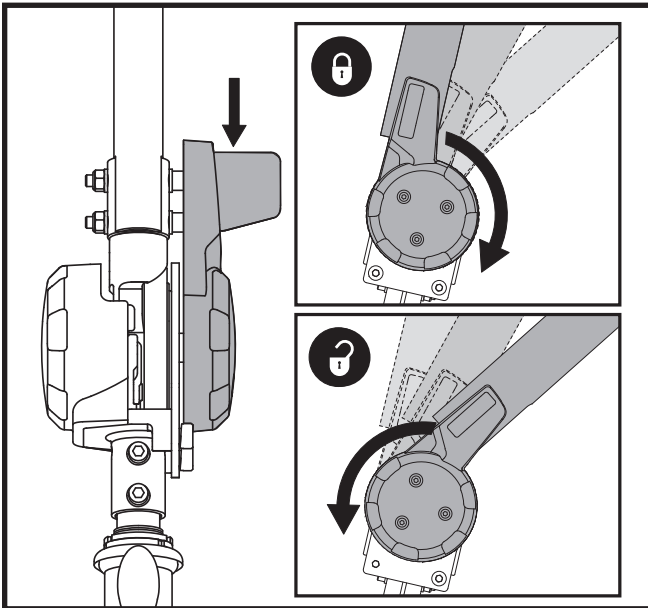

Figure 10. Tiller Adjustment Knob
1. With the seat and battery pack removed (see Disassembly Procedures on previous page), lower the tiller and tighten the tiller adjustment knob. **See figure 10.**
3. Raise the tiller and fully tighten the tiller adjustment knob. **See figure 10.**